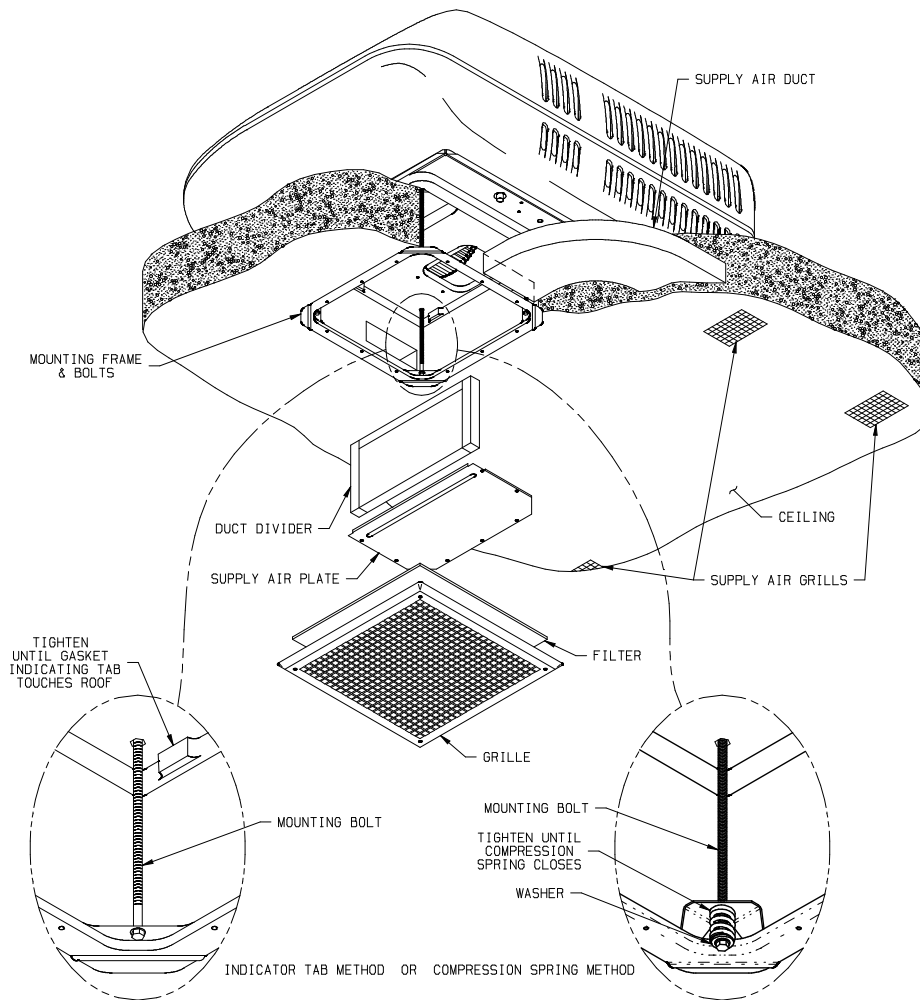

FIGURE 1
- 1. The field fabricated supply ducting must attach to both sides of the ceiling plenum. A minimum of two ducts are required, with one duct attached to each side of the plenum (See Figure 1).
Mounting (Refer to Figure 1)
2. Position the mount frame into the ceiling opening (See Figure 1).
3. Using the four bolts provided, secure the mount frame to the roof top unit by assembling the bolts up through the clearance holes of the mount frame and into the bottom of the roof top unit (See Figure 1). Tighten bolts only to bring gasket indicating tabs or shelf even with roof.
Refer to Figure 1